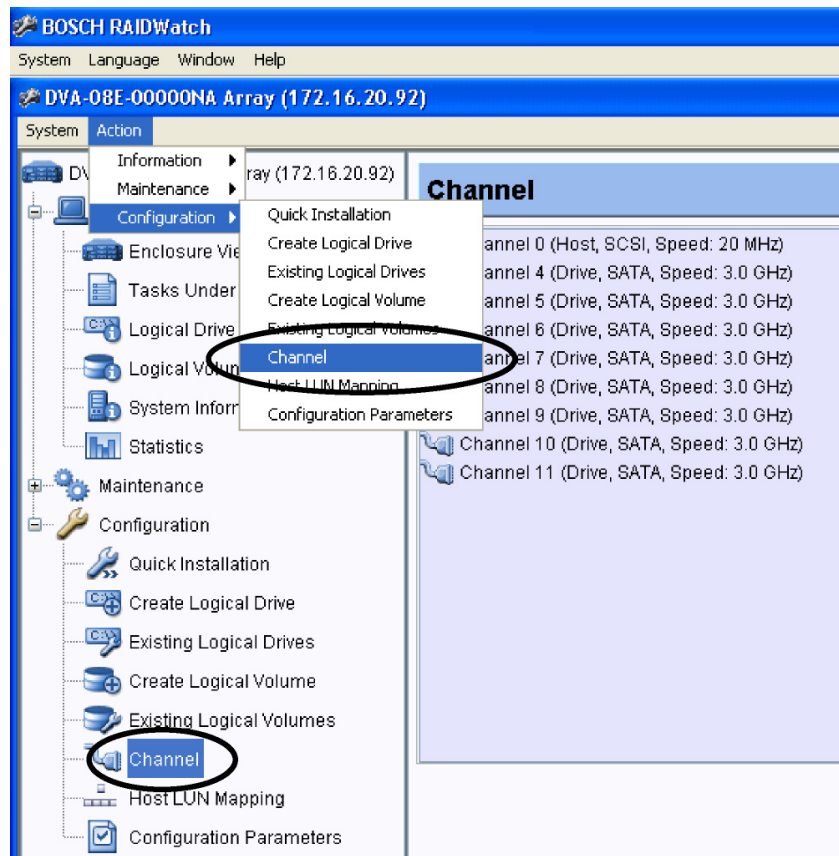

Fig. 8.1 Accessing Channel Configuration Window
To access the Channel window, use either the command from the Action menu or select the Channel icon from the navigation panel. (See *Figure 8.1*).
1. Single-click under the Channel window to select a corresponding channel. Channel icons are displayed in the left-side panel of the configuration window. The Channel Settings configuration will appear as two separate pages on the right side: Parameters and ID. (See *Figure 8.1*).